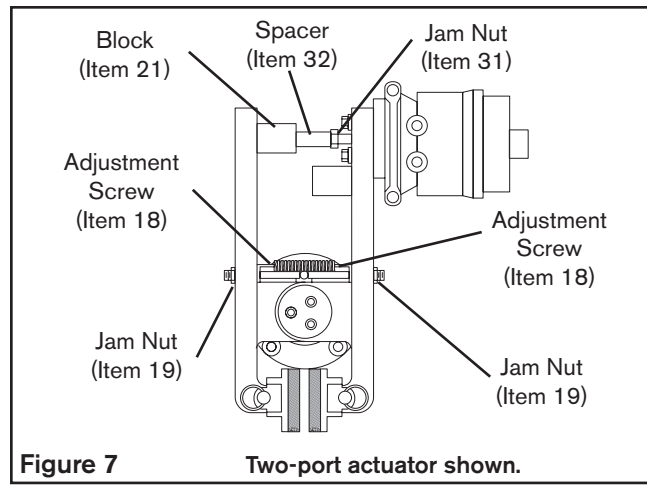

Figure 7 Two-port actuator shown.
4. Loosen the Jam Nut (Item 19) (See Figure 7).
5. Turn each Adjustment Screw (Item 18) counterclockwise until a 0.79 mm [1/32 inch] customer supplied spacer can be inserted between each Friction Facing and the disc. Each side may be adjusted individually (See Figure 7).
6. With customer supplied spacers inserted, turn the Adjustment Screw (Item 18) clockwise until a resistance is felt (See Figure 7).
8. Loosen the Jam Nut (Item 31) (See Figure 7).
9. Adjust the Spacer (Item 32) until its spherical end touches the Block (Item 21) (See Figure 7).
10. Tighten the Jam Nut (Item 31) to 20.2-40.5 Nm [15-30 ft-lb] torque (See Figure 7).